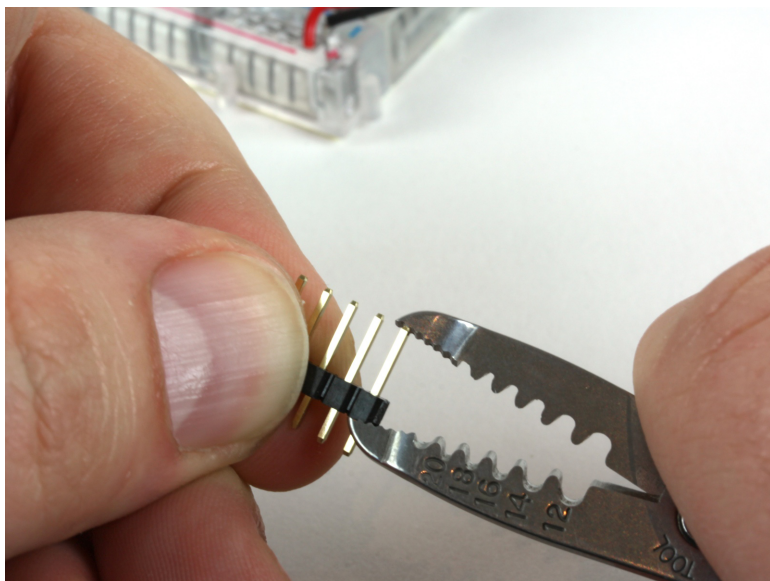

Figure 1-7. *Centering the pins*
1. Start by using a pair of pliers to adjust the pins (gently) to be centered in the plastic rail, as shown in Figure 1-7. By centering the pins it makes it much easier to plug in the FTDI adapter later.